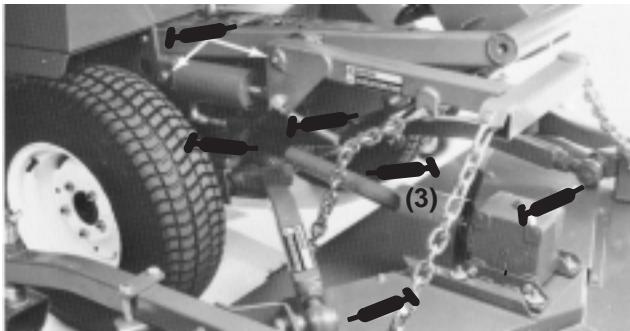

Figure 21
PTO shaft and yokes (3) (Fig. 21)
Lift arm pivots (Fig. 21)
Right and left push arm ball joints (Fig. 21)